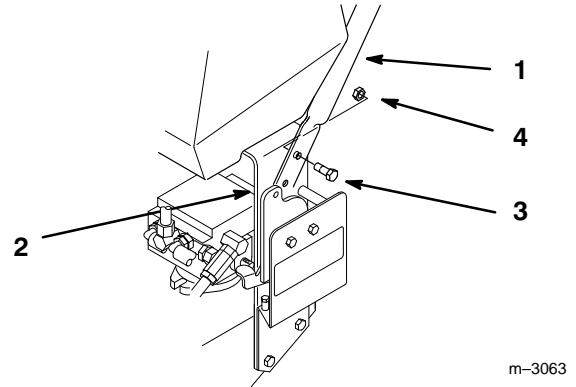

Figure 2
1. Align upper handle with mounting holes in rear frame (Fig. 2). Select high, medium or low position for lower mounting hole.
2. Secure each side with (2) 3/8–16 x 1" (26mm) flange bolts and flange nuts (Fig. 2). Torque bolts to 25 ft. lbs. (34 N·m).